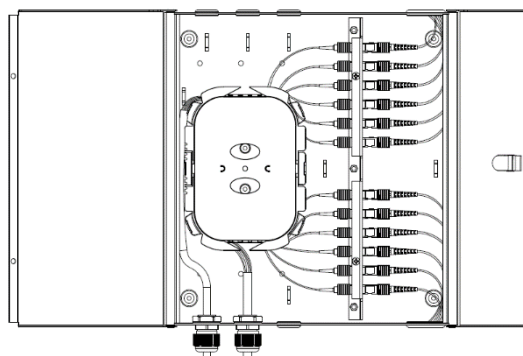

Fig.7
- Cables can enter the top or bottom of the fiber enclosure. Select which input direction is most suitable to the application, Place cable gland and introduce the cable to the enclosure. (Fig.7)
- Fix patch cords and pigtails into the adapter. (Fig.7)